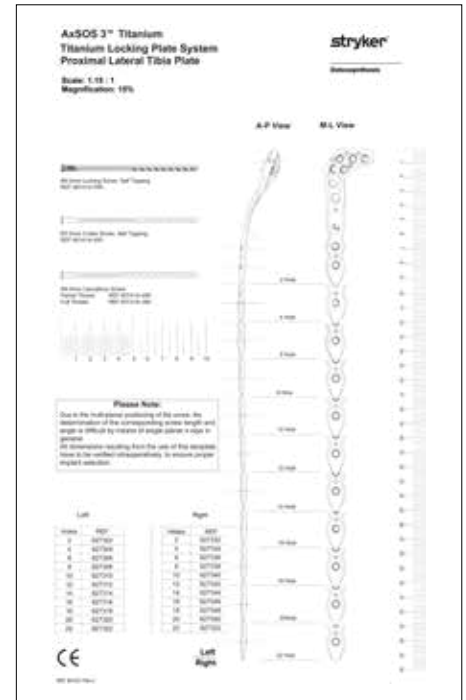

Fig. 1
Use of the X-ray Template (ref 981201) in association with X-rays can assist in the selection of an appropriately sized implant (fig. 1).